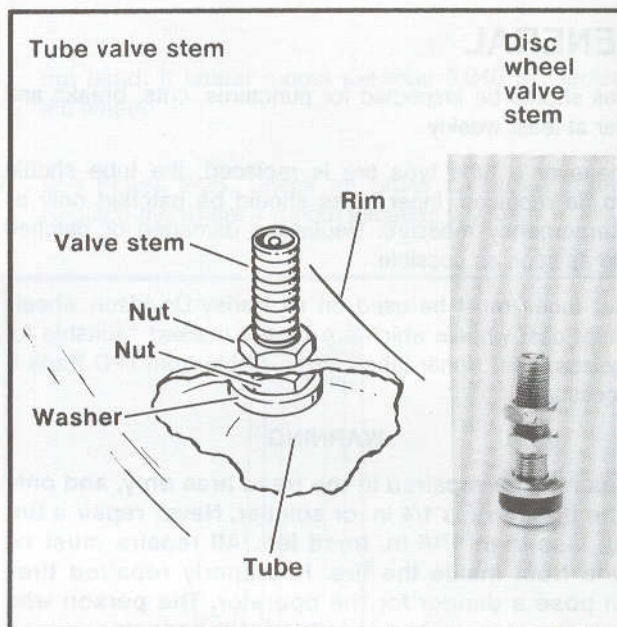

Figure 2-27. Tire Valve Stems
1. See Figure 2-27. On tubeless wheels, damaged or leaking valve stems must be replaced. Place rubber grommet on valve stem in recess of the valve stem head.
8. See figure 2-27. Remove valve stem outer nut. Insert tube in tire with valve stem in hole. Install outer nut two or three turns.